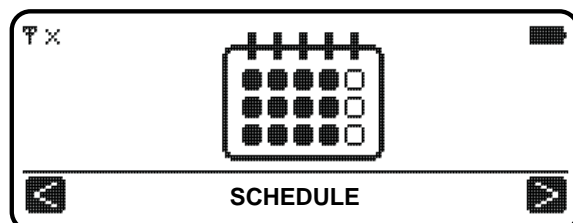

Fig. 22
- From the main screen, press  or  until you reach the "SCHEDULE" (Fig. 22) menu;